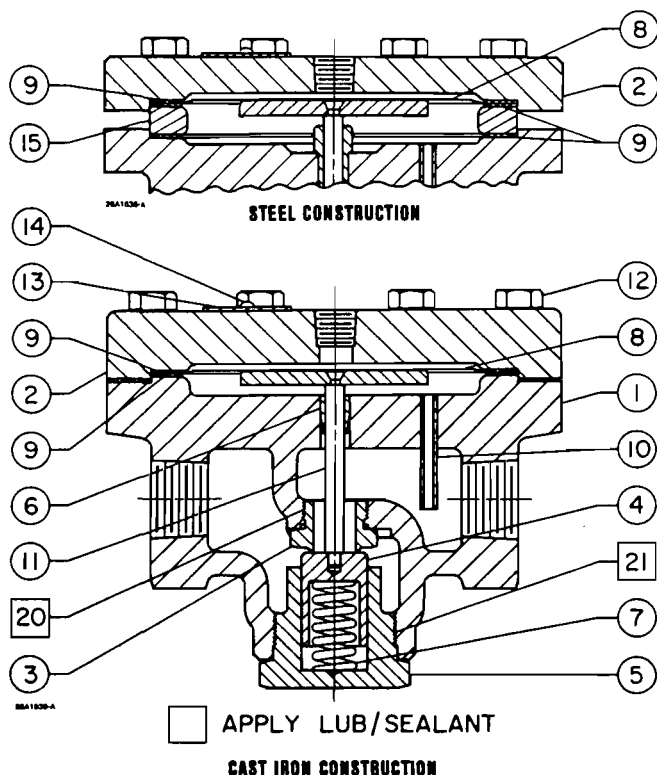

Figure 8. Type 92C Regulator
2. Connect the piping or tubing to the 1/4-inch NPT connection in the diaphragm flange (key 2, figure 8).
Perform these procedures if replacing the diaphragm, the stem assembly, the valve plug, or the seat ring. Refer to the correct section for the required instructions. Key numbers refer to figure 8 unless otherwise indicated.